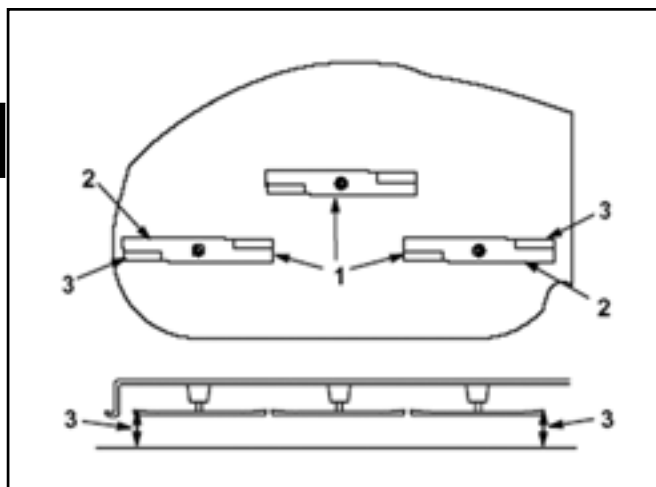

Figure 103
5. Carefully rotate the blade(s) side to side (Figure 103). Measure between the outside cutting edges and the flat surface (Figure 103). If both measurements are not within 3/16 inch (5 mm), an adjustment is required; refer to steps 6 through 8.